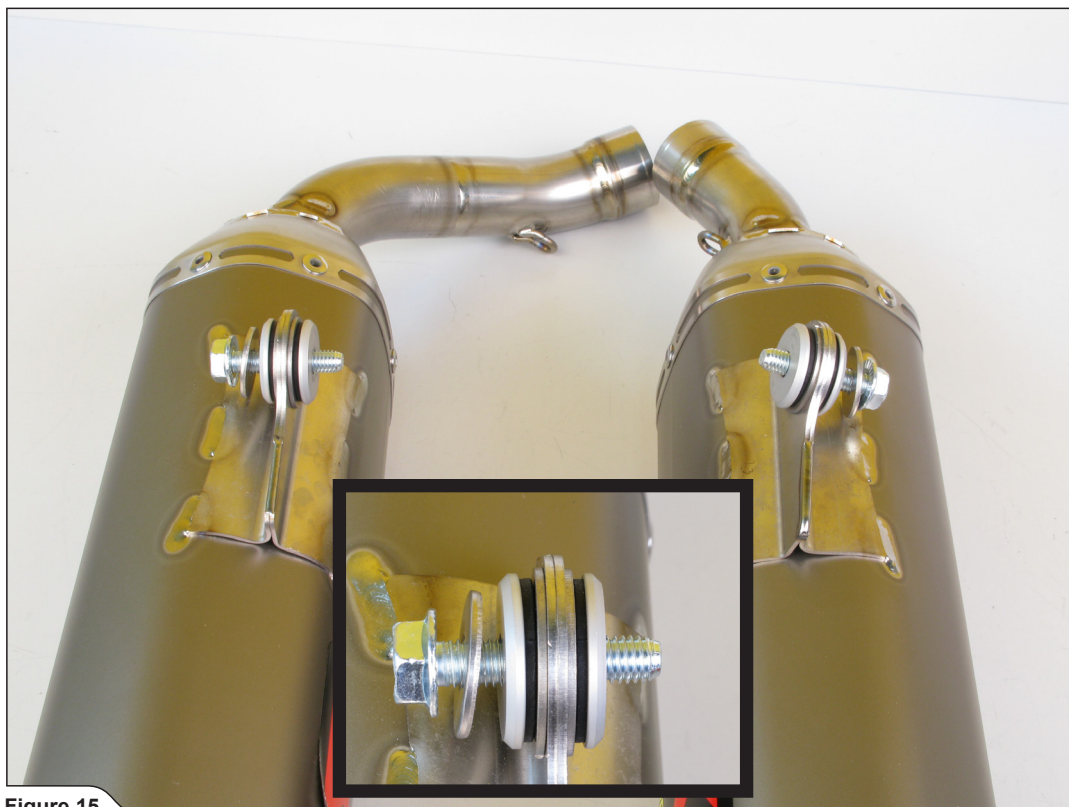

Figure 15
7. Assemble the aluminium bushes from Akrapovič installation kit into the rubber muffler's brackets, as shown (Figure 15).